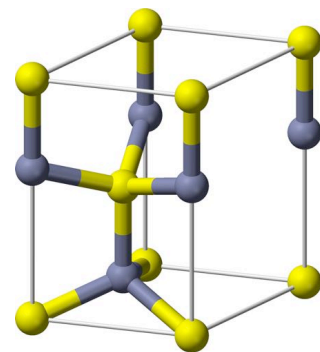

Fig. 10
8. A unit cell of wurtzite is shown below in Fig. 10.